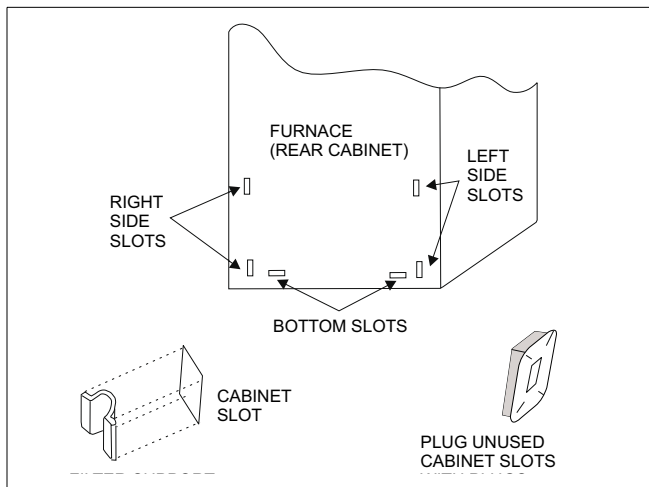

FIGURE 3 : Furnace Filter Slot Locations
2. Install snap-in retainer clips into the corresponding slots from the outside rear of the cabinet (Refer to Figure 3.) To prevent cabinet air leaks, install snap-in plugs (provided) into the unused slots at the outside rear of the cabinet.